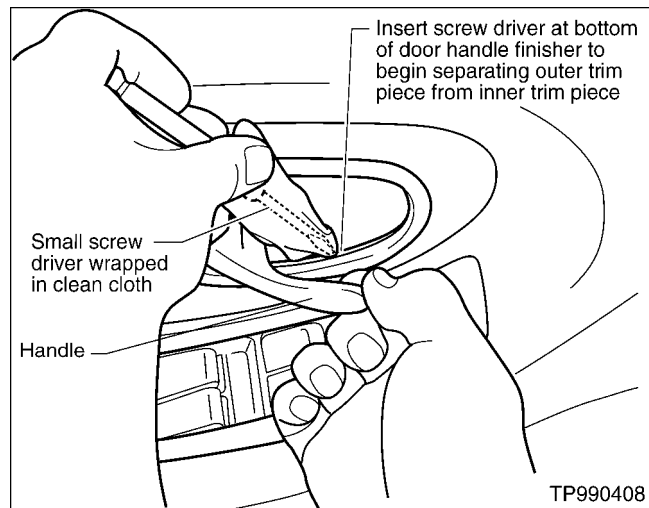

Figure 9
- B. Insert cloth wrapped removal tool at the bottom of the door handle finisher (between the outer trim piece and the inner trim piece). Begin separating the outer trim piece from the inner trim piece (see Figure 9).